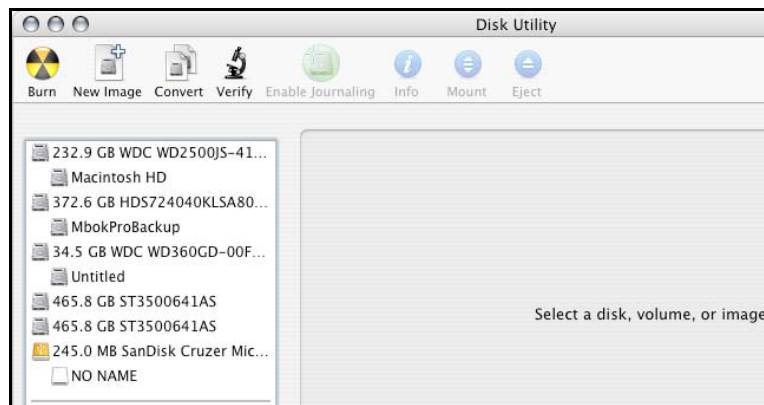

Figure 9: Example hard drive listing
3. Review the list of hard drives show within *Disk Utility* (see Figure 9). Drives currently in use should have a list of volume names below it. New, unformatted drives typically have no volume names listed.